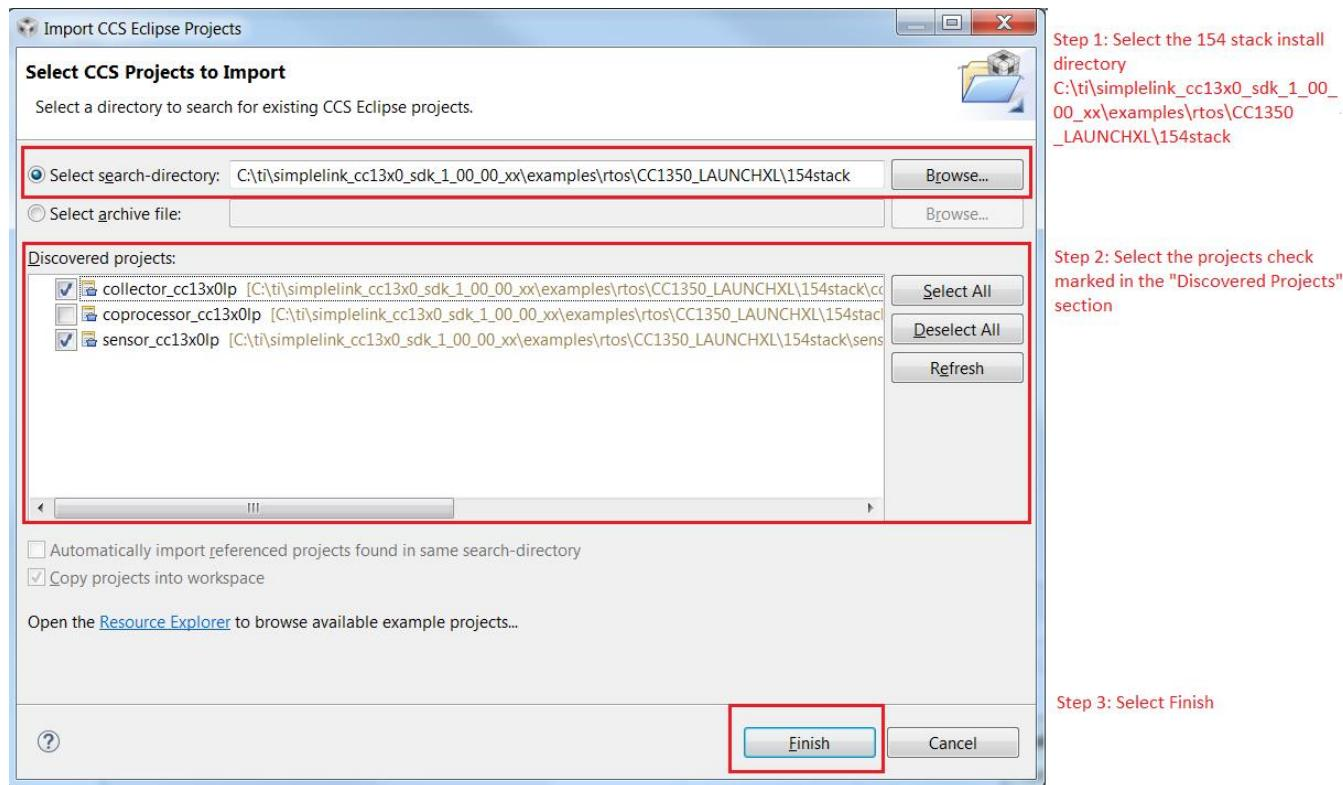

Figure 3. Import Required Example Applications
2. Follow the instructions in Figure 3 to import the required example applications. When using the CC1350 LaunchPad note that xx in Figure 3 is the TI 15.4-Stack SDK build revision number at the release time.